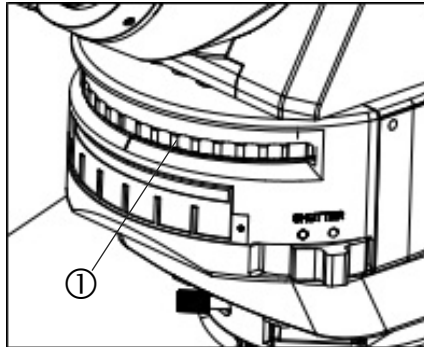

Fig. 29
6.1.1. Setting the Observation Light Path (Fig. 29)